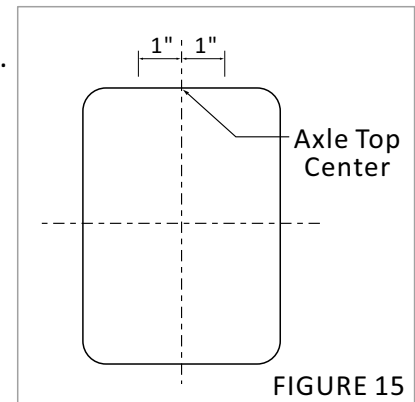

FIGURE 15
- » Welding is not allowed within one-inch (25.4 mm) of the top-center of the axle. (Figure 15)